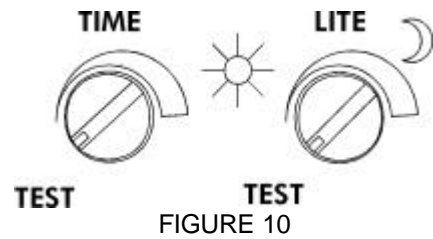

FIGURE 10
(1) TEST MODE
- Turn the Lite control and the Time control anti-clockwise to the edge – the TEST position (FIGURE 10).